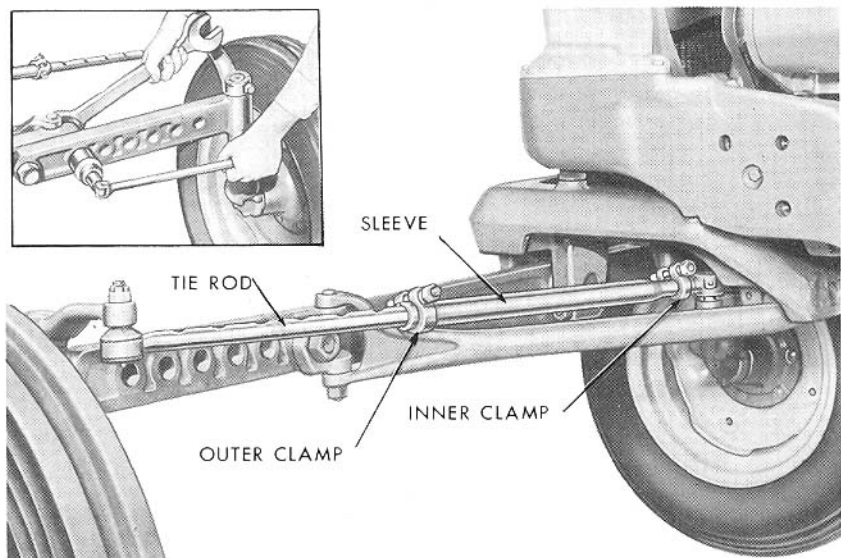
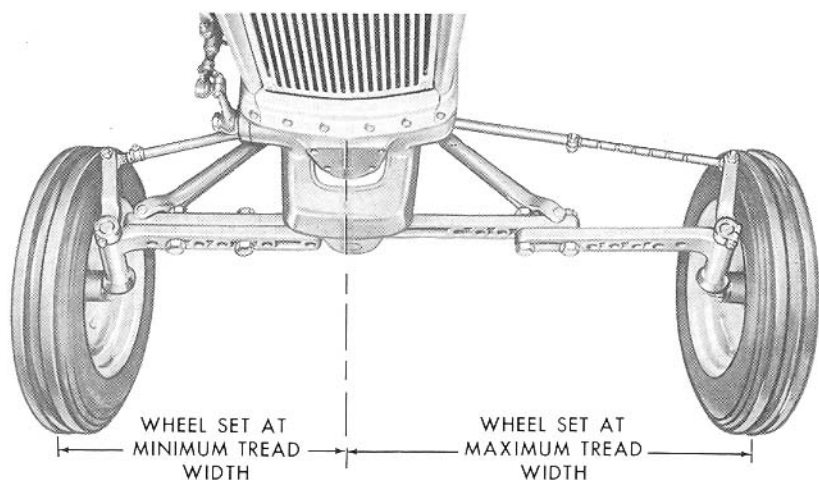

Figure 17
Figure 18
**Front Wheels, Adjustable Front Axle:** The front wheels are adjustable from 52 to 76 inches in approximately 4 inch spacings. To change the tread width, raise the front end of the tractor with a jack placed at the forward end of the transmission housing. Work on one axle section at a time and remove the hex head bolts, flat washers and nuts which hold the outer axle sections to the inner axle section. See insert, Figure 17. Next remove the hex head bolts, lockwashers and nuts
from the outer clamps shown in Figure 17 to release each tie rod from the locked position in its sleeve. Position the front wheels and tie rods in or out until the desired tread width is obtained. Figure 18 shows the correct minimum and maximum wheel tread adjustments.
Position the front wheels straight ahead and align the hole in each outer clamp (see Figure 17) with the groove in each tie rod which is nearest the outer clamp hole. Align and insert the clamp bolts to lock the tie rods in the sleeves. Secure both outer clamps with the lockwashers and nuts previously removed.